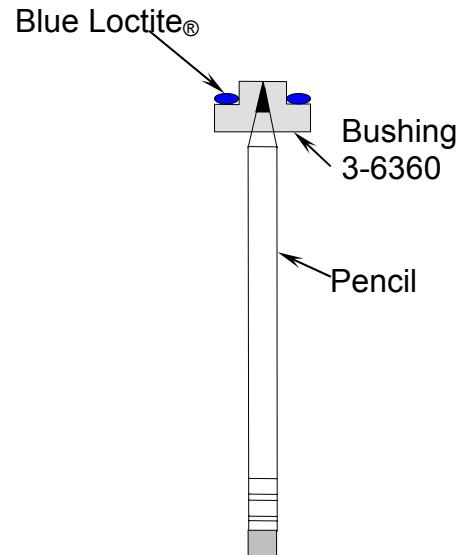

Figure 7
2. Lightly force the bushing (1-6360) over the tip of a wood pencil as shown in Figure 7.
3. Apply blue Loctite® to the bushing as shown in Figure 7.